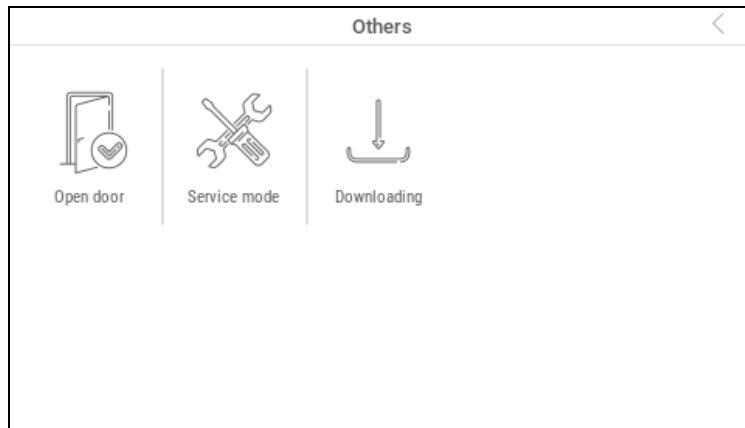

Fig. 5. Functions available on the “Others” screen (example).
4. Tap the “Others” function. A list of functions will be displayed (Fig. 5).